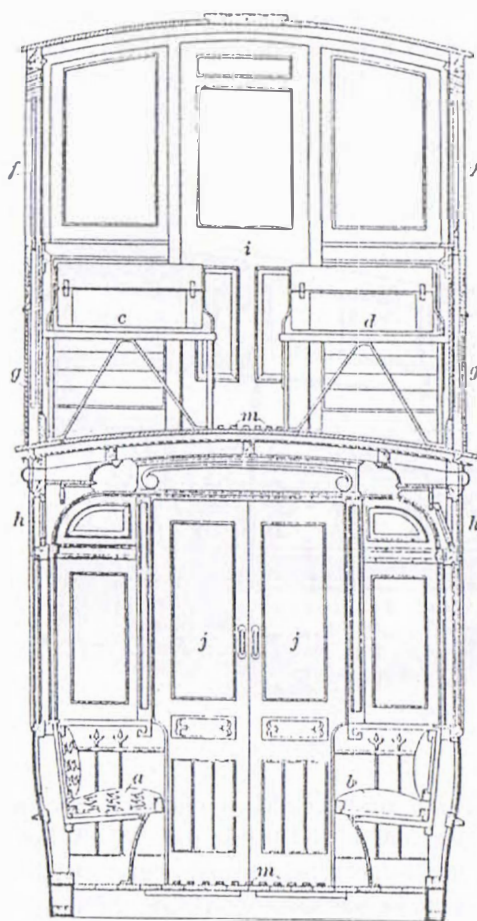

FIG. 4
**Construction of Double-Deck Car.**—A typical British double-deck car, built by the United Electric Car Company for the London United Electric Tramways, is shown in Fig. 3, which consists of a side elevation (*a*) and a plan (*b*). A vertical cross-section is given in Fig. 4, which is drawn to a larger scale than